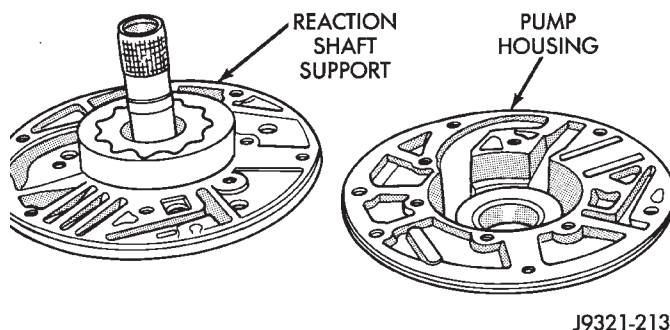

Fig. 38 Separating Pump Housing From Reaction Shaft Support
- (3) Remove pump-to-support bolts and separate support from pump housing (Fig. 38).